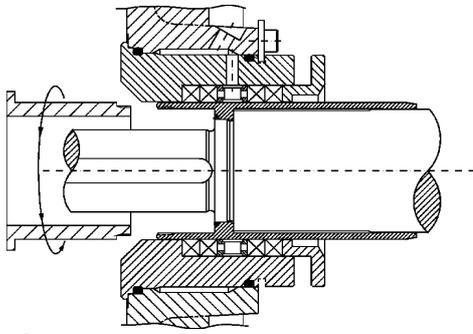

Fig. 3
4. **5R:** For extracting the shaft sleeve and then the cartridge for bearing 5R a special tool is required. Screw the special tool onto the shaft sleeve (see Fig. 3) pull out the sleeve with a standard puller.